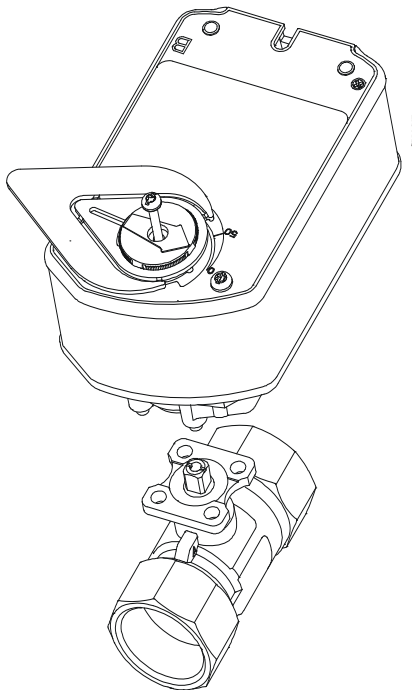

Figure 15: Mount the Actuator
7. Install the actuator on the ball valve (Figure 15). Tighten the actuator mounting screw to a torque of 10 to 12 lb-in. (1.1 to 1.4 N-m) and snap the large adjustable pointer into place.